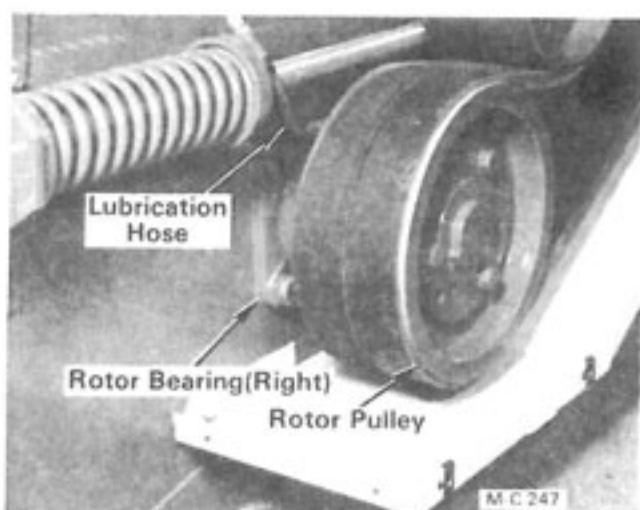

Figure 39
2. Remove the belt guard cover, lubrication hose and back belt guard, see Figure 39. Remove the drive belts. Refer to "Drive Belt Replacement" page 16 for procedure.